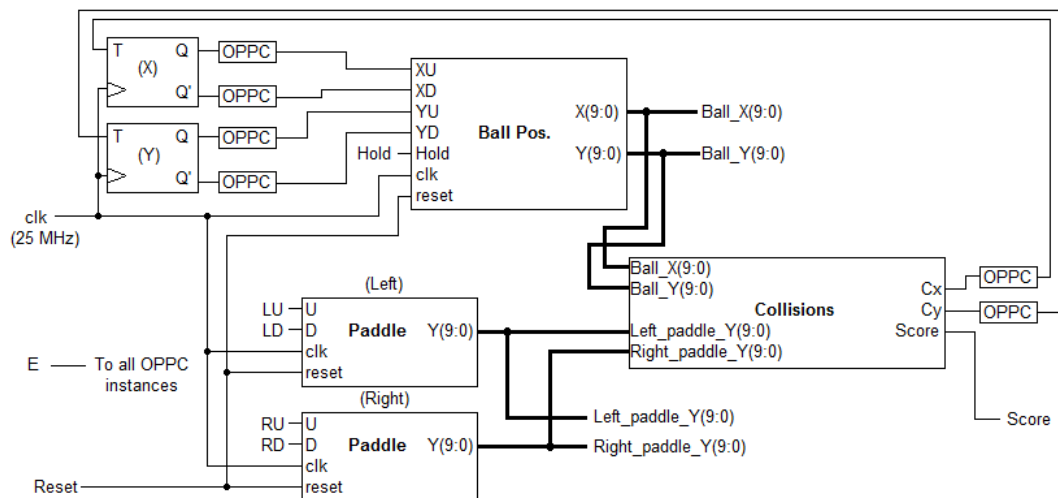

Figure 7: Pong Datapath
The completed datapath will be laid out as shown in Figure 7. The datapath will have seven one-bit inputs: **clock** (25 MHz) and **reset**, **hold** (discussed later), and **LU**, **LD**, **RU**, and **RD** (which are the user buttons for moving both paddles up and down). This module will have one one-bit output **Score**, and four ten-bit outputs **Ball_X**, **Ball_Y**, **Left_paddle_Y**, and **Right_paddle_Y**. You should follow Figure 7 as a loose guideline, as it may not match your design exactly.
Note that the OPPC modules obviously also require connections to the clock, reset, and E inputs (as indicated), but these are omitted in Figure 7 for brevity.
14. Combine the datapath elements together (along with the OPPC module), following Figure 7 as a guide.